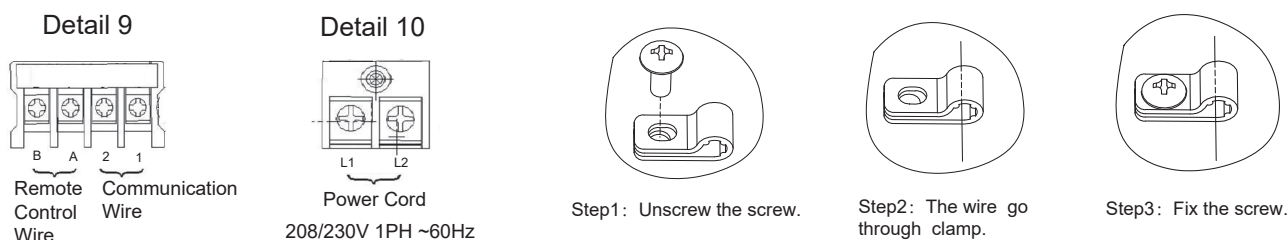

Fig. 7.1 Wiring Connection for Indoor
The electrical wiring connection for the indoor unit is shown in Fig. 7.1
- (1) Connect the power supply wires to the terminal board in the electrical control box of both outdoor unit and indoor unit. And connect the earth wire to the electrical control box of outdoor unit. In addition, connect the earth wire to earth screw in the electrical control box of indoor unit. Refer to Fig. 7.1.
- (2) Connect the communication wires between the outdoor and indoor units to terminals 1 and 2 on the terminal board. If power supply wiring is connected to 1 and 2 of terminal board, printed circuit board will be damaged.
- (3) Use shielded twisted pair for communication wire connecting of the indoor unit and outdoor unit, respectively connected to the 1 and 2 terminals of the terminal block between the indoor and outdoor unit. Connect the communication wire of the wired controller to the A and B terminals of the indoor unit terminal block.
- (4) The recommended ELB, FUSE sizes etc. are shown in Table 7.1.
- (5) In the case that a conduit tube for field-wiring is not used, fix rubber bushes with adhesive on the panel.